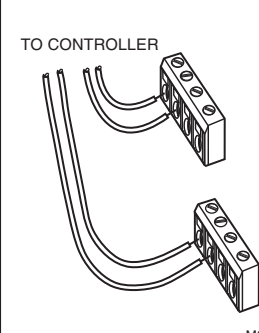

Fig. 8. Attaching two or more wires at terminal blocks.
- If two or more wires are being inserted into one terminal location, twist the wires together a minimum of three turns before inserting them (see Fig. 8).